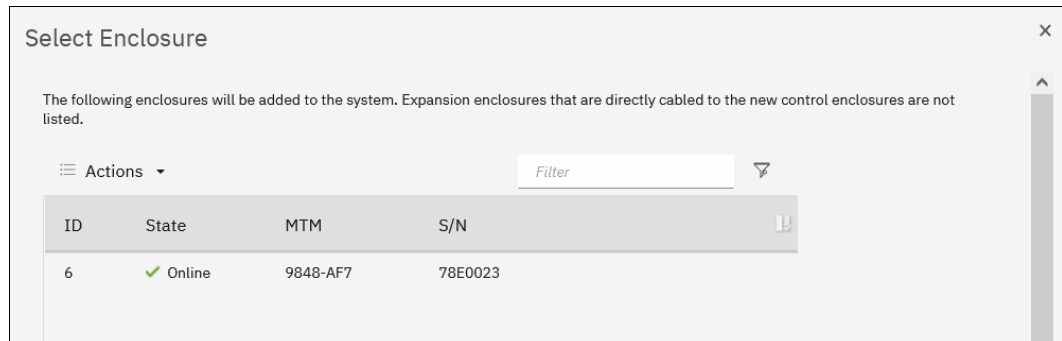

Figure 2-49 Selecting the control enclosure to add
2. Click **Add Enclosure**, and a list of available candidate enclosures opens, as shown in Figure 2-49. To light the Identify light-emitting diode (LED) on a selected enclosure, select **Actions** → **Identify**. When the required enclosure (or enclosures) is chosen, click **Next**.